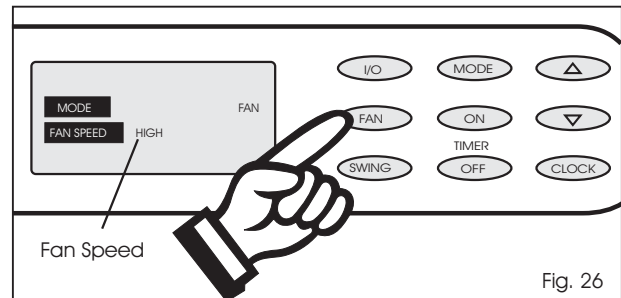

Fig. 26
- 3) Press the **FAN** key to select the desired **FAN SPEED** setting. Fig.26. Your selection will be displayed in the **LCD** window. Each depression of the fan key will advance to a different speed (**High-Med-Low**).